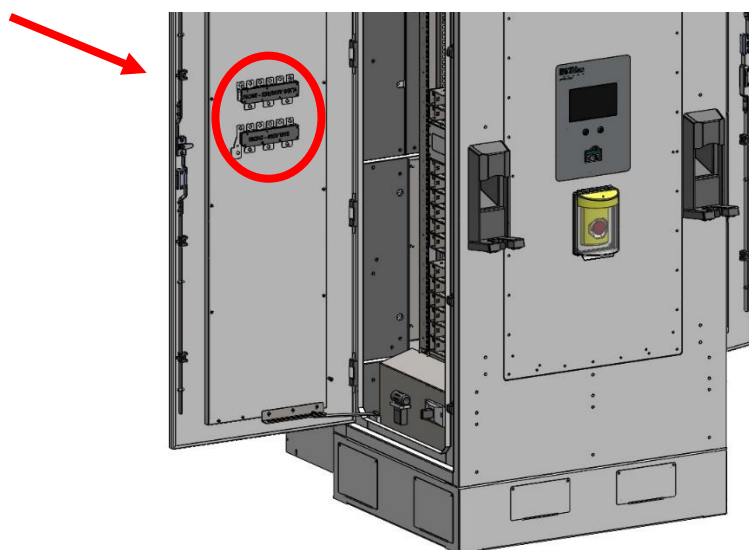

Figure 43 - Inside left door is shipping/storage location of 2 configuration bus bars
11. The two configuration bus bars/plates shown in Figure 42 are included with your charger and ship in their storage position anchored inside the left door (see Figure 43). Select the configuration bus bar required for your site's AC Input Power Configuration and unscrew it from the door.